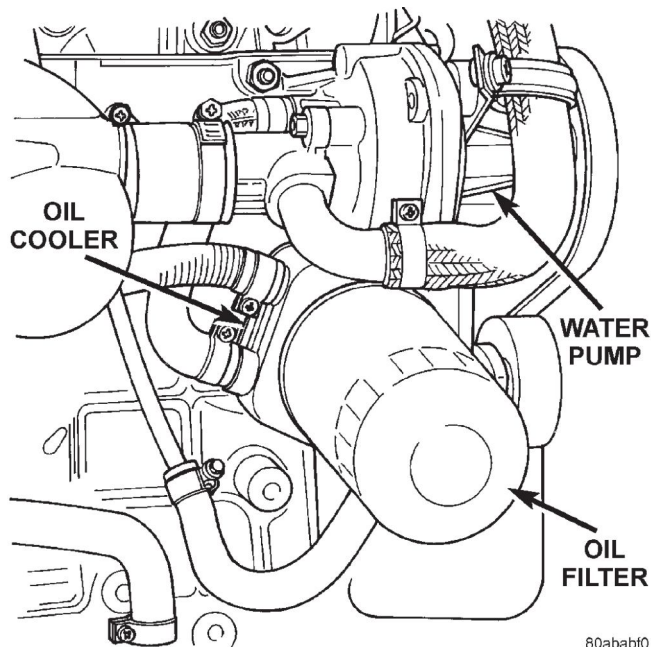

Fig. 6 Oil Filter
(1) Position a drain pan under the oil filter.
(2) Using a suitable oil filter wrench loosen filter.
(3) Rotate the oil filter counterclockwise to remove it from the oil filter base (Fig. 6).